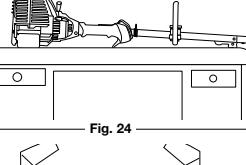

Fig. 24
2. Place the engine on a flat, level surface with the cutting head shaft hanging off a work bench or table to get a proper oil level reading (Fig. 24).